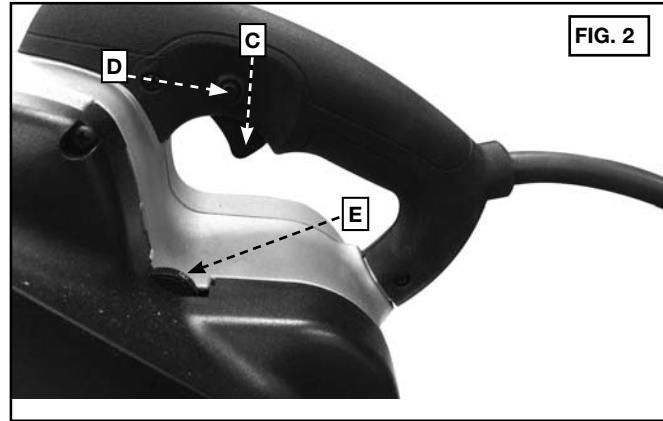

FIG. 2
- Squeeze the trigger (C) Fig. 2 to start the motor. Release the trigger to stop the motor.
- To allow the motor to run without constantly holding the trigger, press the trigger switch (C), push and hold the lock button (D) Fig. 2 while releasing the trigger switch.
The speed is adjusted by turning the variable speed dial (E) Fig. 2. The first position provides the slowest operating speed (850 SFM) while position 6 is the fastest (1300 SFM). The speed can be changed either when the motor is running or is stopped.